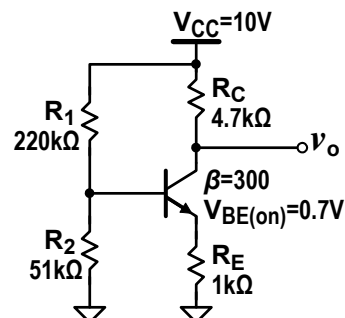

Figure 2. Voltage divider biasing circuit
- For the circuit given in Figure 2, determine  $I_B$ ,  $I_C$ ,  $V_B$ ,  $V_E$ , and  $V_{CE}$ .
**2.a)** Build the circuit in Figure 2. Measure the values of  $I_B$ ,  $I_C$ ,  $V_B$ ,  $V_{BE}$ , and  $V_{CE}$ .